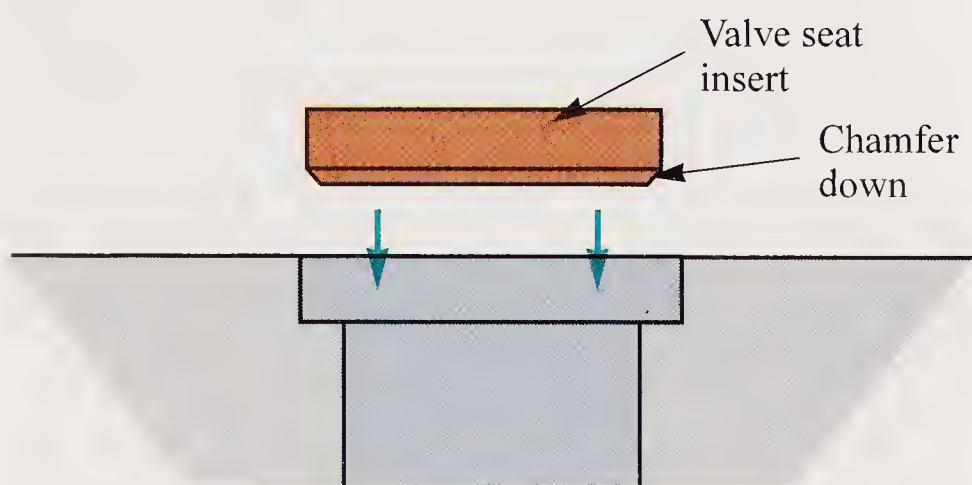

Figure 17-56. When installing the insert the chamfered edge should be placed down in the cylinder recess.
1. Select proper valve seat insert, pilot, and driver according to the engine manual. One side of the insert will be chamfered at the outer edge. This side should go down into the cylinder. See **Figure 17-56**.